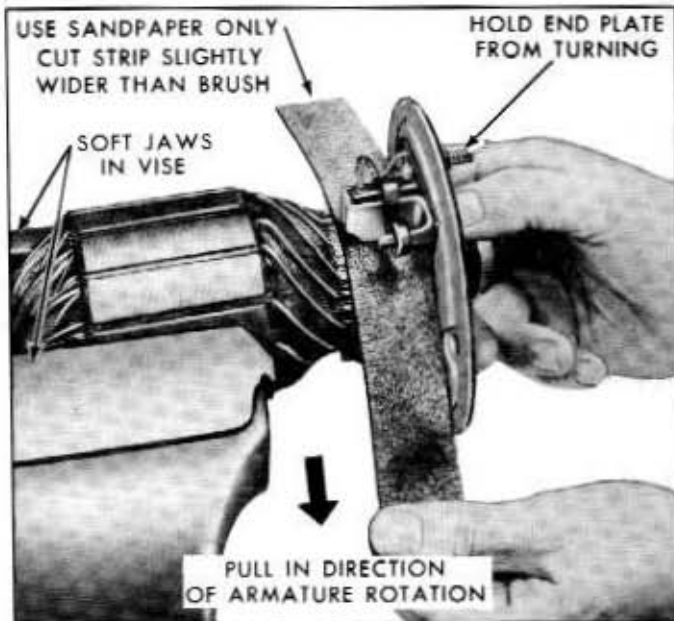

Fig. 9-14—Generator Brush Seating—(60C-7673)
5. Make sure that the new brushes slide freely in the brush holders. Seat the new brushes by sanding as shown in figure 9-14.